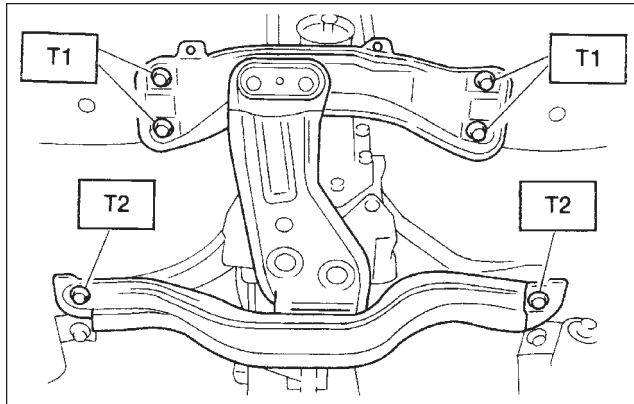

Figure 3
During reinstallation, follow the torque sequence, below (**Figure 2**) and the torque specifications (**Figure 3; next page**).
Bolts must be torqued to the proper specifications (**Figure 3**).
- 3) Cut the rubber seat tube at the holes which will provide approximately a 60mm length (see Figure 3).